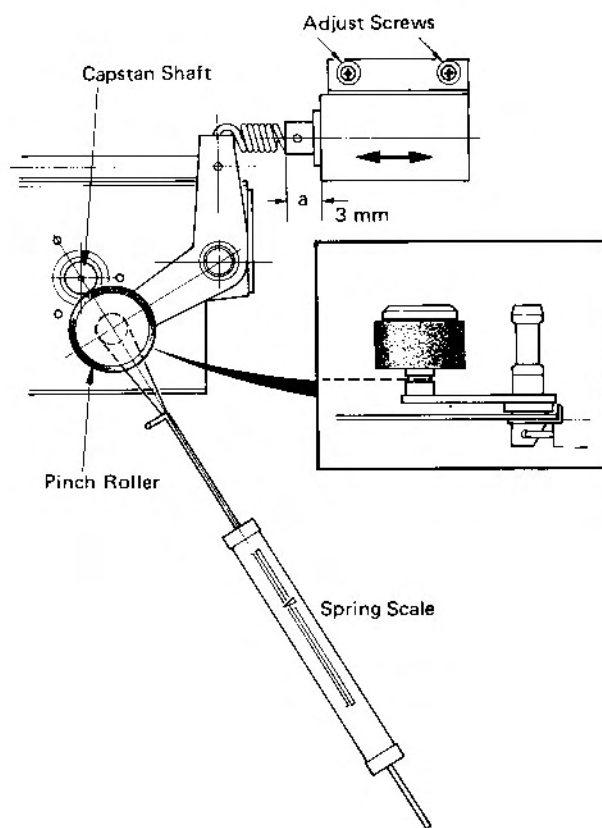

Fig. 2-6.
3. Attach a spring scale to the pinch roller as shown in Fig. 2-6.